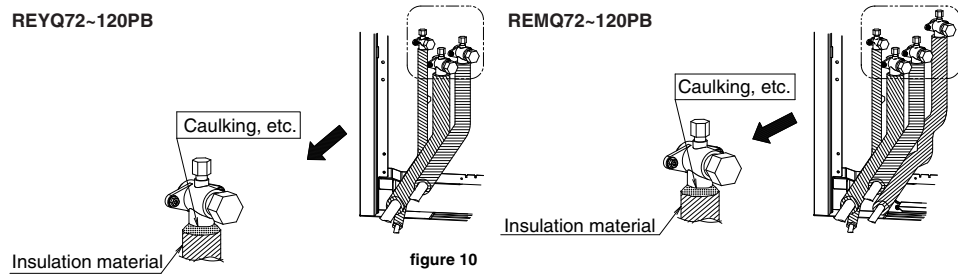

figure 10
- If there is a possibility that condensation on the stop valve might drip down into the indoor unit through gaps in the insulation and piping because the outdoor unit is located higher than the indoor unit, etc., this must be prevented by caulking the connections, etc. **(Refer to figure 10)**